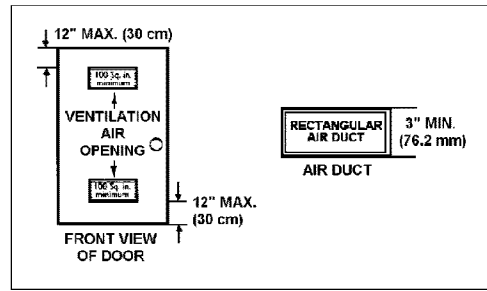
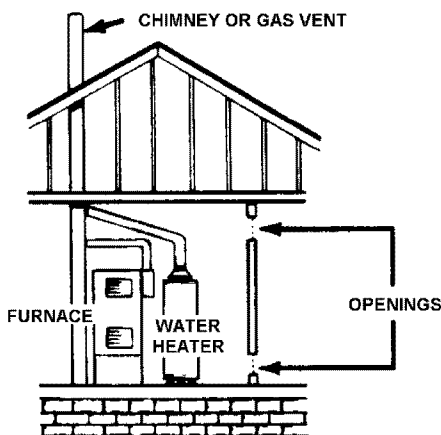

FIGURE 9.
FIGURE 10.
A gas water heater cannot operate properly without the correct amount of air for combustion, see Figure 9. Do not install in a confined area such as a closet, unless you provide air as shown in the *Locating The New Water Heater* section. Never obstruct the flow of ventilation air. If you have any doubts or questions at all, call your gas supplier. Failure to provide the proper amount of combustion air can result in a fire or explosion and cause death, serious bodily injury, or property damage.
(See Figure 9 on page 10 and Figure 10 below)
B. ALL AIR FROM OUTDOORS: (See Figures 9, 11, 12, 13 and 13A)